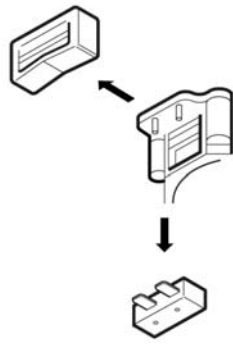

Fig. 4
- (v) The microswitch should slide off the two retaining pins. Be careful not to break the pins off (see Fig. 4).